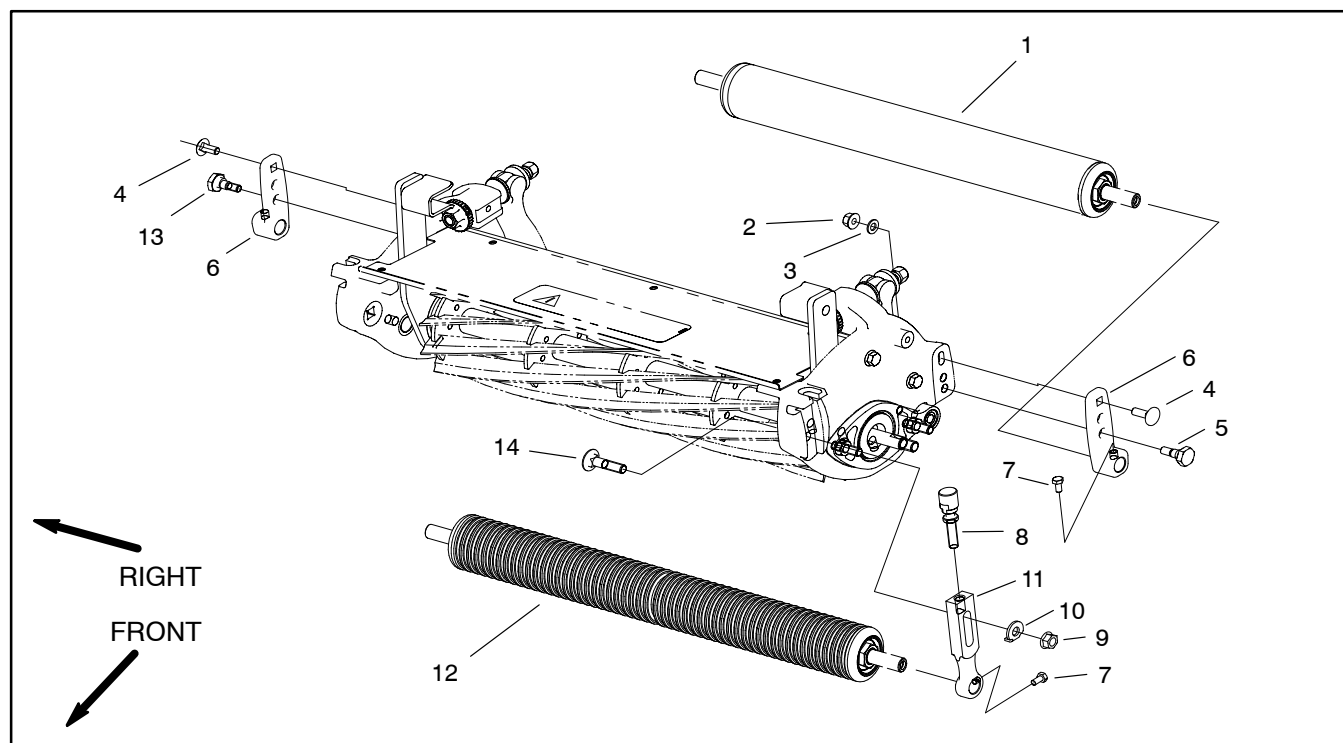

Figure 28
- B. Install roller bracket on the opposite side of the cutting unit onto roller shaft. Secure to mower side plate with carriage bolt, shoulder bolt, flat washers and flange nuts (Fig. 28).